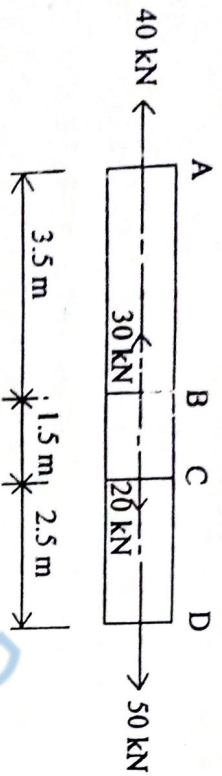

Fig. 1
4. (a) Find the moment of inertia about the centroidal axis XX and YY for the section shown in fig 1 10
- b) Two copper rods and one steel rod together support a load as shown in fig 1. if the stresses in copper and steel are not to exceed 60 N/mm^2 and 120 N/mm^2 respectively. Find the safe load that can be supported. Young's Modulus for steel is twice that of copper. 6
in Fig. 1. Find the total elongation of the bar. Take modulus of elasticity as 100 GPa. 6
A brass bar having a cross-sectional area of 1000 mm^2 is subjected to axial forces as shown in Fig. 1. Find the total change in length of the bar. Take $E = 1.05 \times 10^5 \text{ N/mm}^2$. (6)